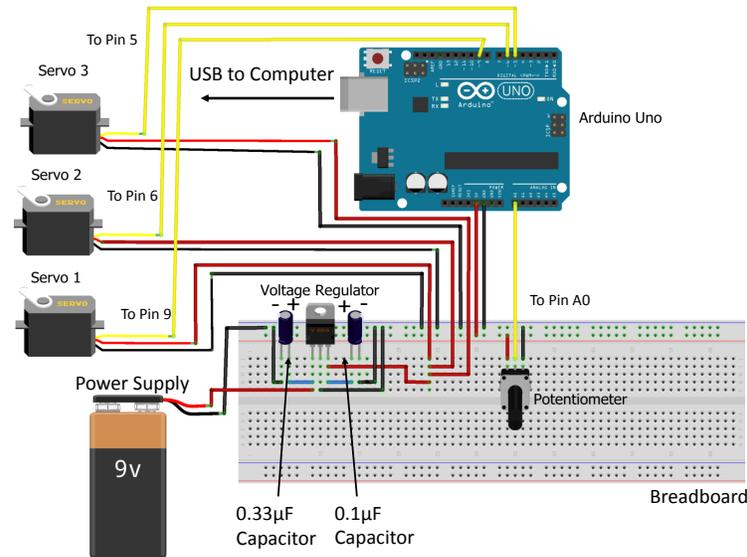

Figure 9: Wiring diagram
Complete all the connections as shown in Figures 9 and 10. If you do not know how to use a breadboard please refer to Appendix A
Figure 9 shows the 9V supply as a battery, but it is better to use a power supply similar to the one recommended in items 10 and 11 in the *Digi-Key* shopping cart (this is a *wall wart* and an alligator clip adapter) because a battery would be quickly drained due to the large power draw of the circuit. However, if you cannot get access to a power supply, a 9V battery will also work.
- Did you overlook one of the connections in Figures 9 and 10?